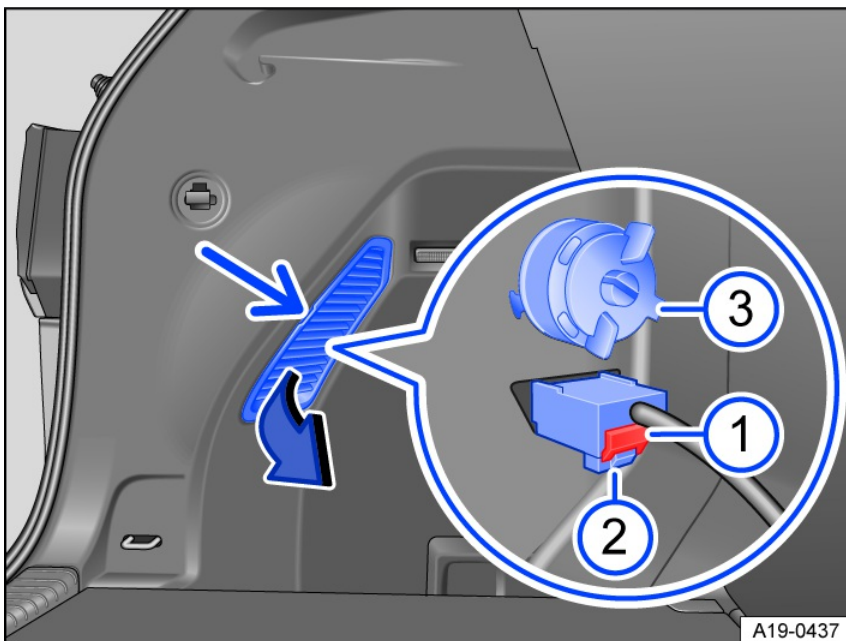

Fig. 175 Side of the luggage compartment: removing the taillight.
1. Use a screwdriver to lever off the ventilation grille at the recess and remove it in the direction of the arrow *fig. 175*.
2. Remove the red locking mechanism *fig. 175* ① on the connector.
3. Release the connector *fig. 175* ② and disconnect it.
4. Remove the screw counterclockwise *fig. 175* ③.
2. Hold the taillight in the installation position with one hand and tighten the screw with the other hand *fig. 175* ③.
4. Connect the connector to the bulb holder and press in the red securing clip *fig. 175* ①.